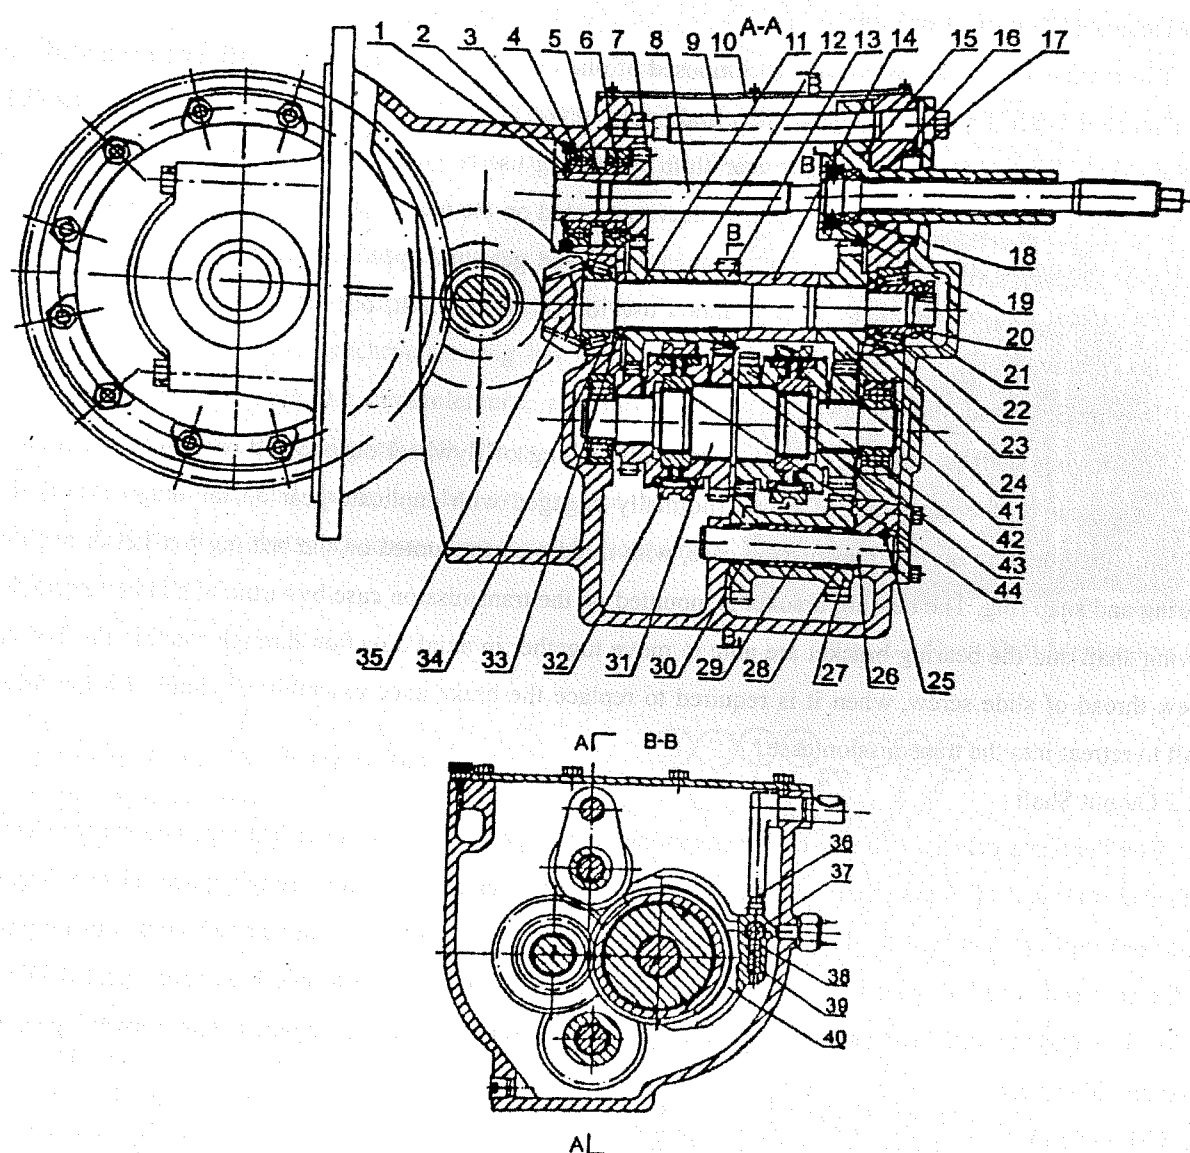
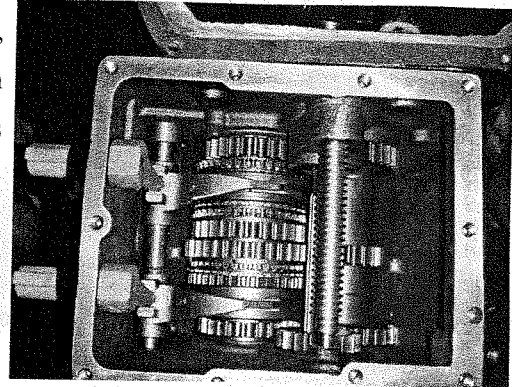

Fig 2-1 Transmission Device
Fig. 2-2 Gear-Shift Mechanism
The transmission device for mechanical drive forklift trucks is in an integrated structure composed of mechanical transmission case, speed reducer, speed differential, and clutch shell (Fig 2-1). Synchromesh gear is fitted with mechanical transmission case for meshing gears to turn synchronously, to avoid gear impact during gear shift, and to be able for gear shift to be steady, to reduce noise arising from gear shift, especially during forward or backward commutation.
2.2.5 Rotary Rod and Gear-Shift Poking Fork (Refer to Fig. 2-2 and Fig. 2-1.)